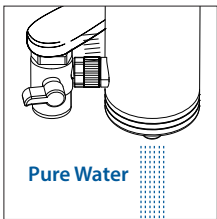

Figure 1.4
2. Switch the lever to the level direction to get pure water. [Figure 1.4]